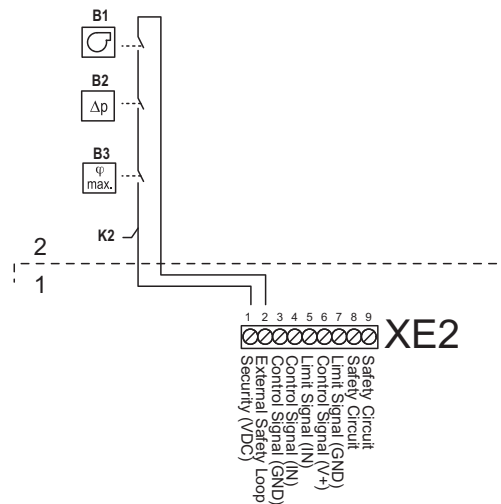

Figure 15 - External Safety Chain Connection
4. Connect the devices in series to terminals 1 (24 VDC) and 2 (external safety loop) of the control terminal block, XE2. Refer to Figure 15 - above.